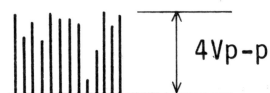
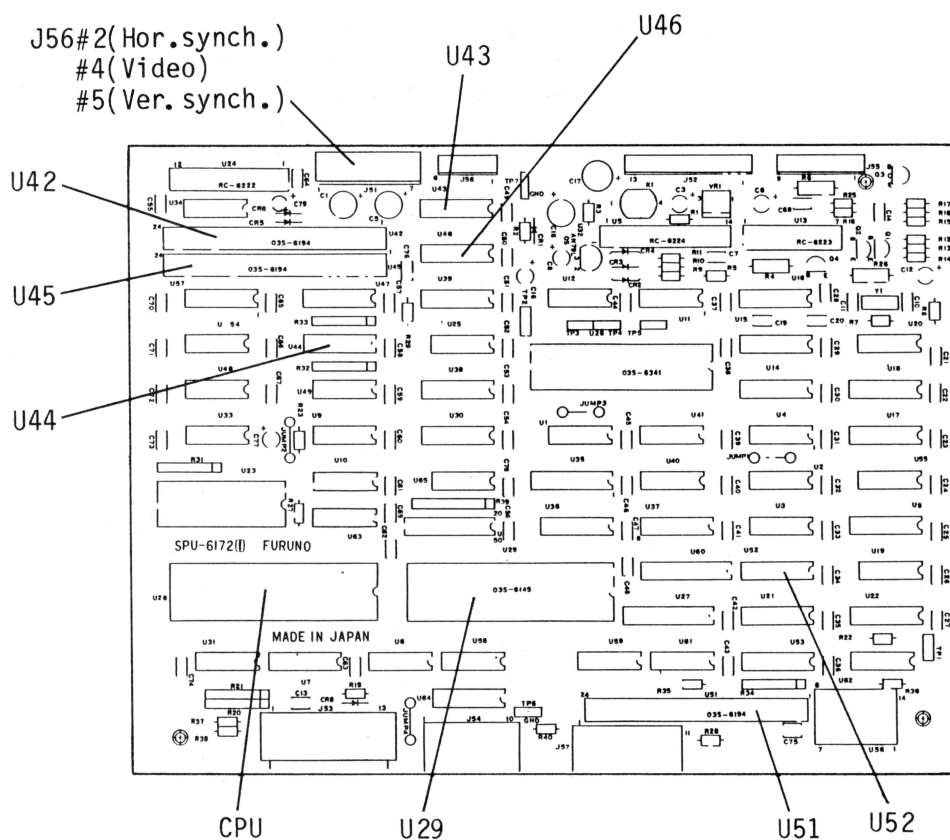

Fig.4-7 Pin#4 of J56 on the PROCESSOR Board (Video signal)
Fig.4-8 PROCESSOR Board (SPU-6172) solder side
- 5) Check the vertical/horizontal synchro pulses at pin#5 (ver.) and pin#2 (hor.) of J56 on the PROCESSOR board by using an oscilloscope. If the pulses shown in Fig.4-6 are not observed, the CPU or U29 on the PROCESSOR board may be faulty. See Fig.4-8.
- 6) Check the video signal at pin#4 of J56 on the PROCESSOR board. If the signal shown in Fig.4-7 is not observed, the Video RAM block (U42 to U46, U51 and U52) in the PROCESSOR board may be faulty. See Fig.4-8.